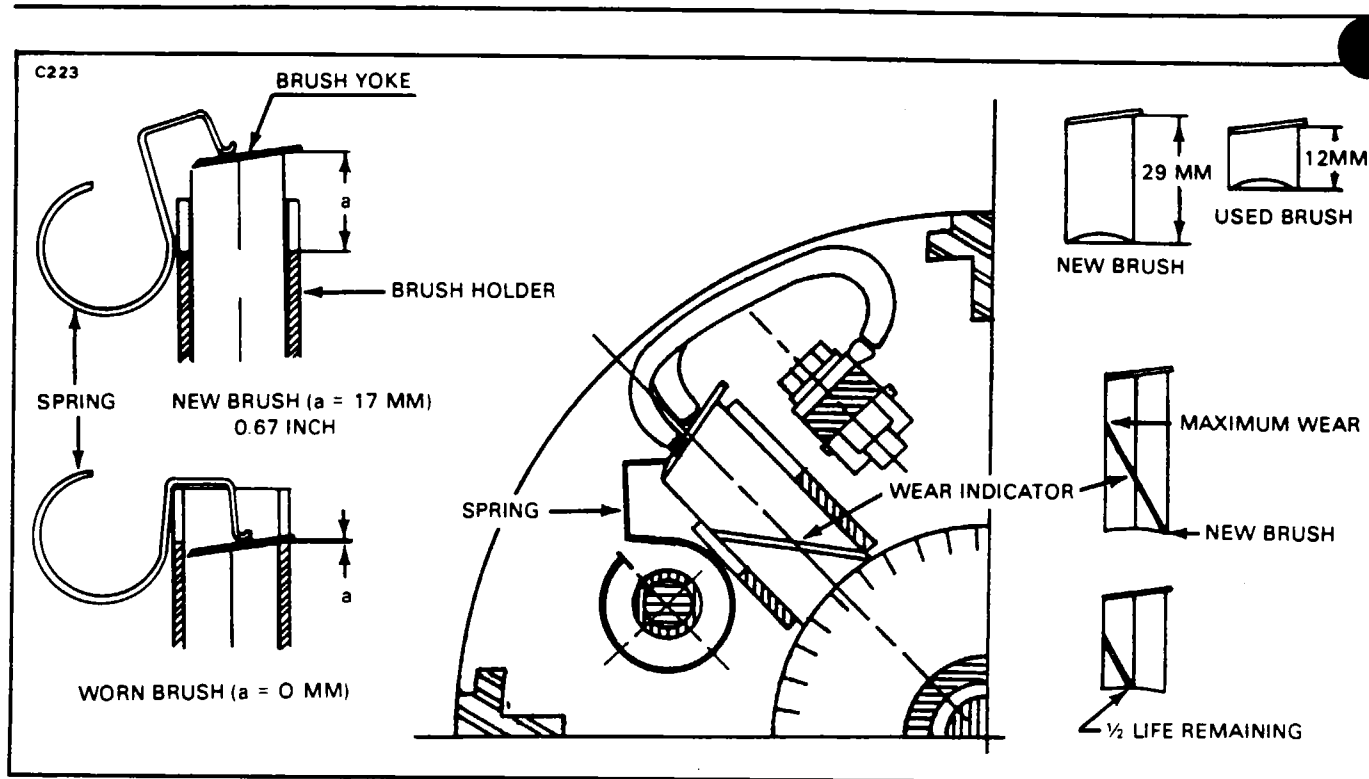

Figure 24-5. Brush Shunts Positioning and Brush Wear Checks
- B. Replace brushes if remaining allowable wear will be exceeded before the next inspection. See Figure 24-5 for brush wear limits.
Position brushes according to the marks made during disassembly and also position brush shunts as shown in Figure 24-5.